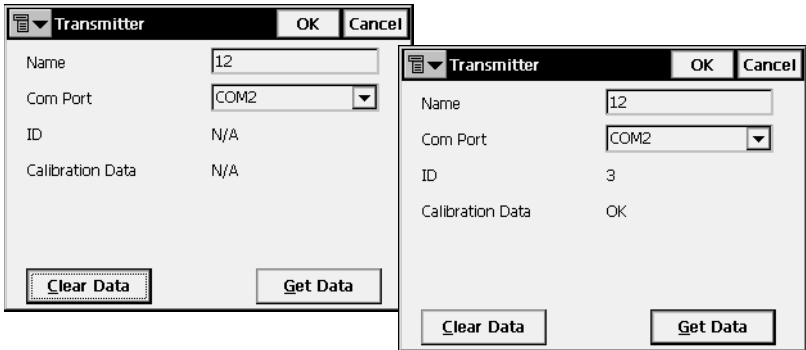

Figure 6-8. Enter and Get Transmitter Data
4. On the *Transmitter* screen, enter a *Name* for the transmitter (usually the serial number), select the *Com port* for the transmitter (usually COM1), then tap **Get Data** (Figure 6-8 on page 6-9).